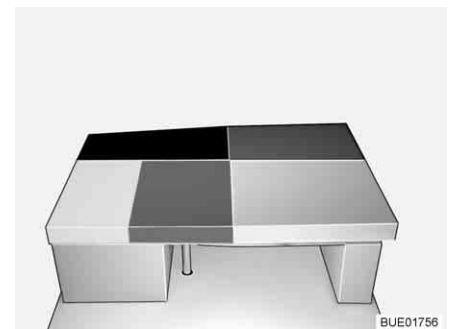

Fig. 133 After conversion
- Place the back cushion of the bench on the table (in front of the seat cushion of the bench, see Fig. 133).
- Place the back cushion of the lateral bench between the seat cushion of the lateral bench and the wall (see Fig. 133).